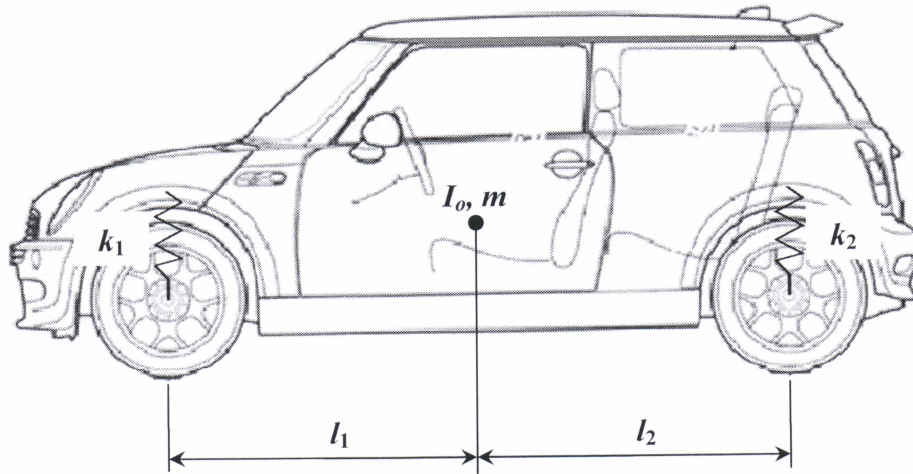

Figure Q2
- Q2** A Mini Cooper S as shown in **Figure Q2** having a mass $m = 1200$ kg and a mass moment of inertia of $I_0 = 400$ kg.m², is supported on suspension system modelled as elastic springs. If the stiffness of the supports are given by $k_1 = 3000$ N/mm, and $k_2 = 2000$ N/mm, and the supports are located at $l_1 = 1.0$ m and $l_2 = 1.5$ m from the car centre of gravity.